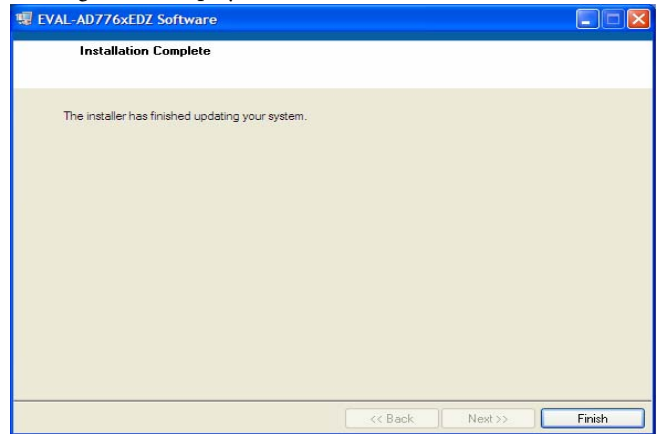

Figure 7. Install Completed
- 8. On completion of the installation, the window as shown in Figure 7 is displayed.